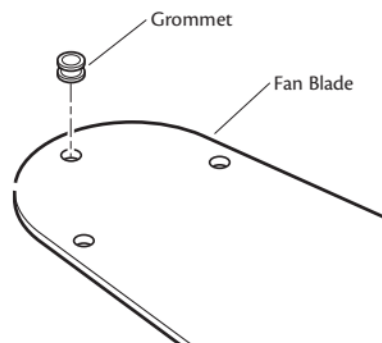

Figure 22 - Inserting the grommets into the fan blades
1. Your fan may include blade grommets. If your fan has grommets, insert them by hand into the holes on the blades as shown in Figure 22.